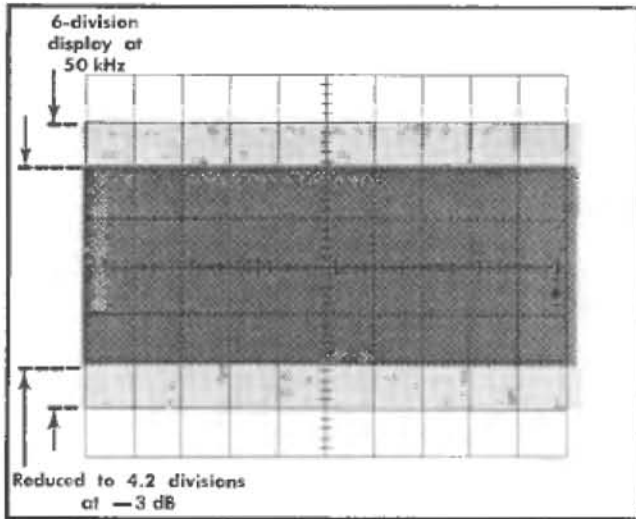

Fig. 6-26. Illustration of CRT display when checking vertical frequency response.
- d. Without changing the output amplitude, increase the output frequency of the constant-amplitude generator until the display is reduced to 4.2 divisions (−3 dB point; see Fig. 6-26).
- i. Without changing the output amplitude, increase the output frequency of the constant-amplitude generator until the display is reduced to 4.2 divisions (−3 dB point; see Fig. 6-26).
- Without changing the output amplitude, increase the output frequency of the constant-amplitude generator until the display is reduced to 4.2 divisions (-3 dB point; see Fig. 6-26).